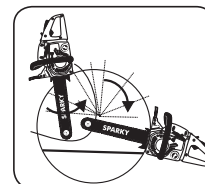

Fig. 10D
2. When diameter of wood being cut is greater than the bar length, make 2 cuts as shown (Fig. 10D).
**! WARNING:** As the felling cut gets close to the hinge, the tree should begin to fall. When tree begins to fall, remove saw from cut, stop engine, put chain saw down, and leave area along retreat path (Fig. 10D).